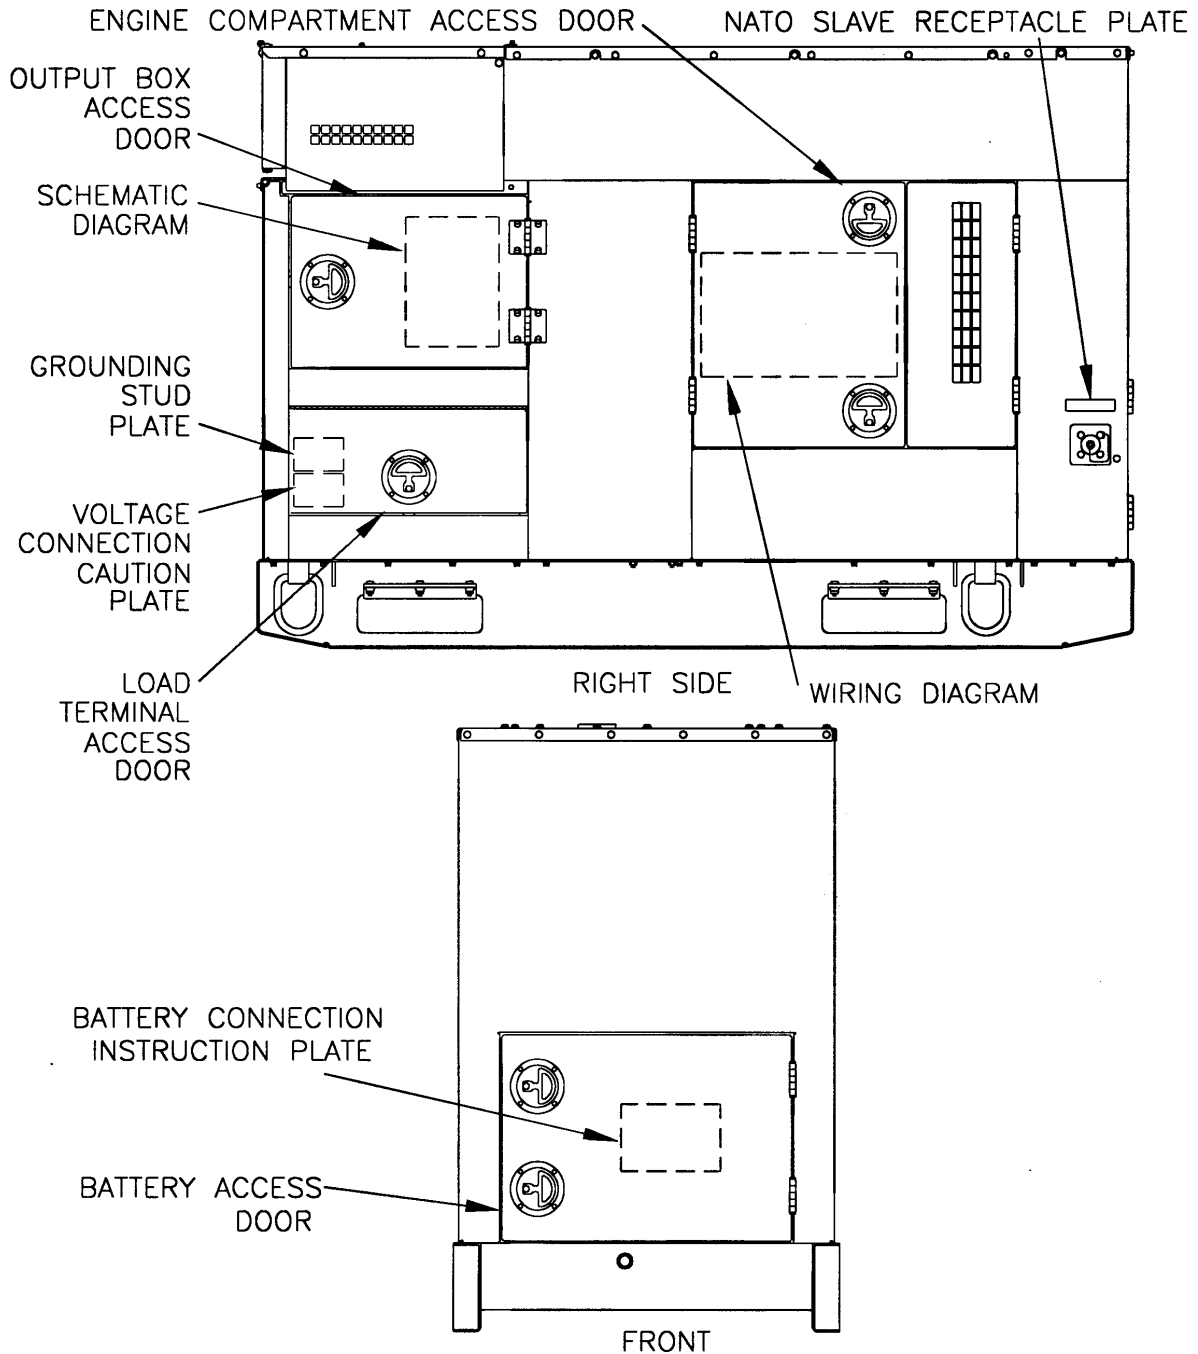

FIGURE 1-2. LOCATIONS OF DATA PLATES AND ACCESS DOORS (FRONT AND RIGHT SIDE)
1.13.2 DATA PLATES. There are data plates at various locations on the generator set to provide instructions, cautions, and identification. Figures 1-2 through 1-18 show the location and contents of each plate on the generator set. The wiring diagram and schematic diagram data plates are located at the back of this manual as fold-outs.